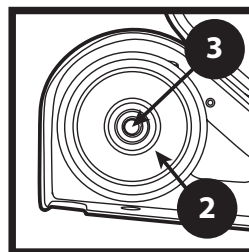

FIGURE 12
3. Install the upper wheel such that its inner bearing surface is approximately 0.06 inches out from its bearing support. Secure the wheel with locking set screw. (Figure 12)